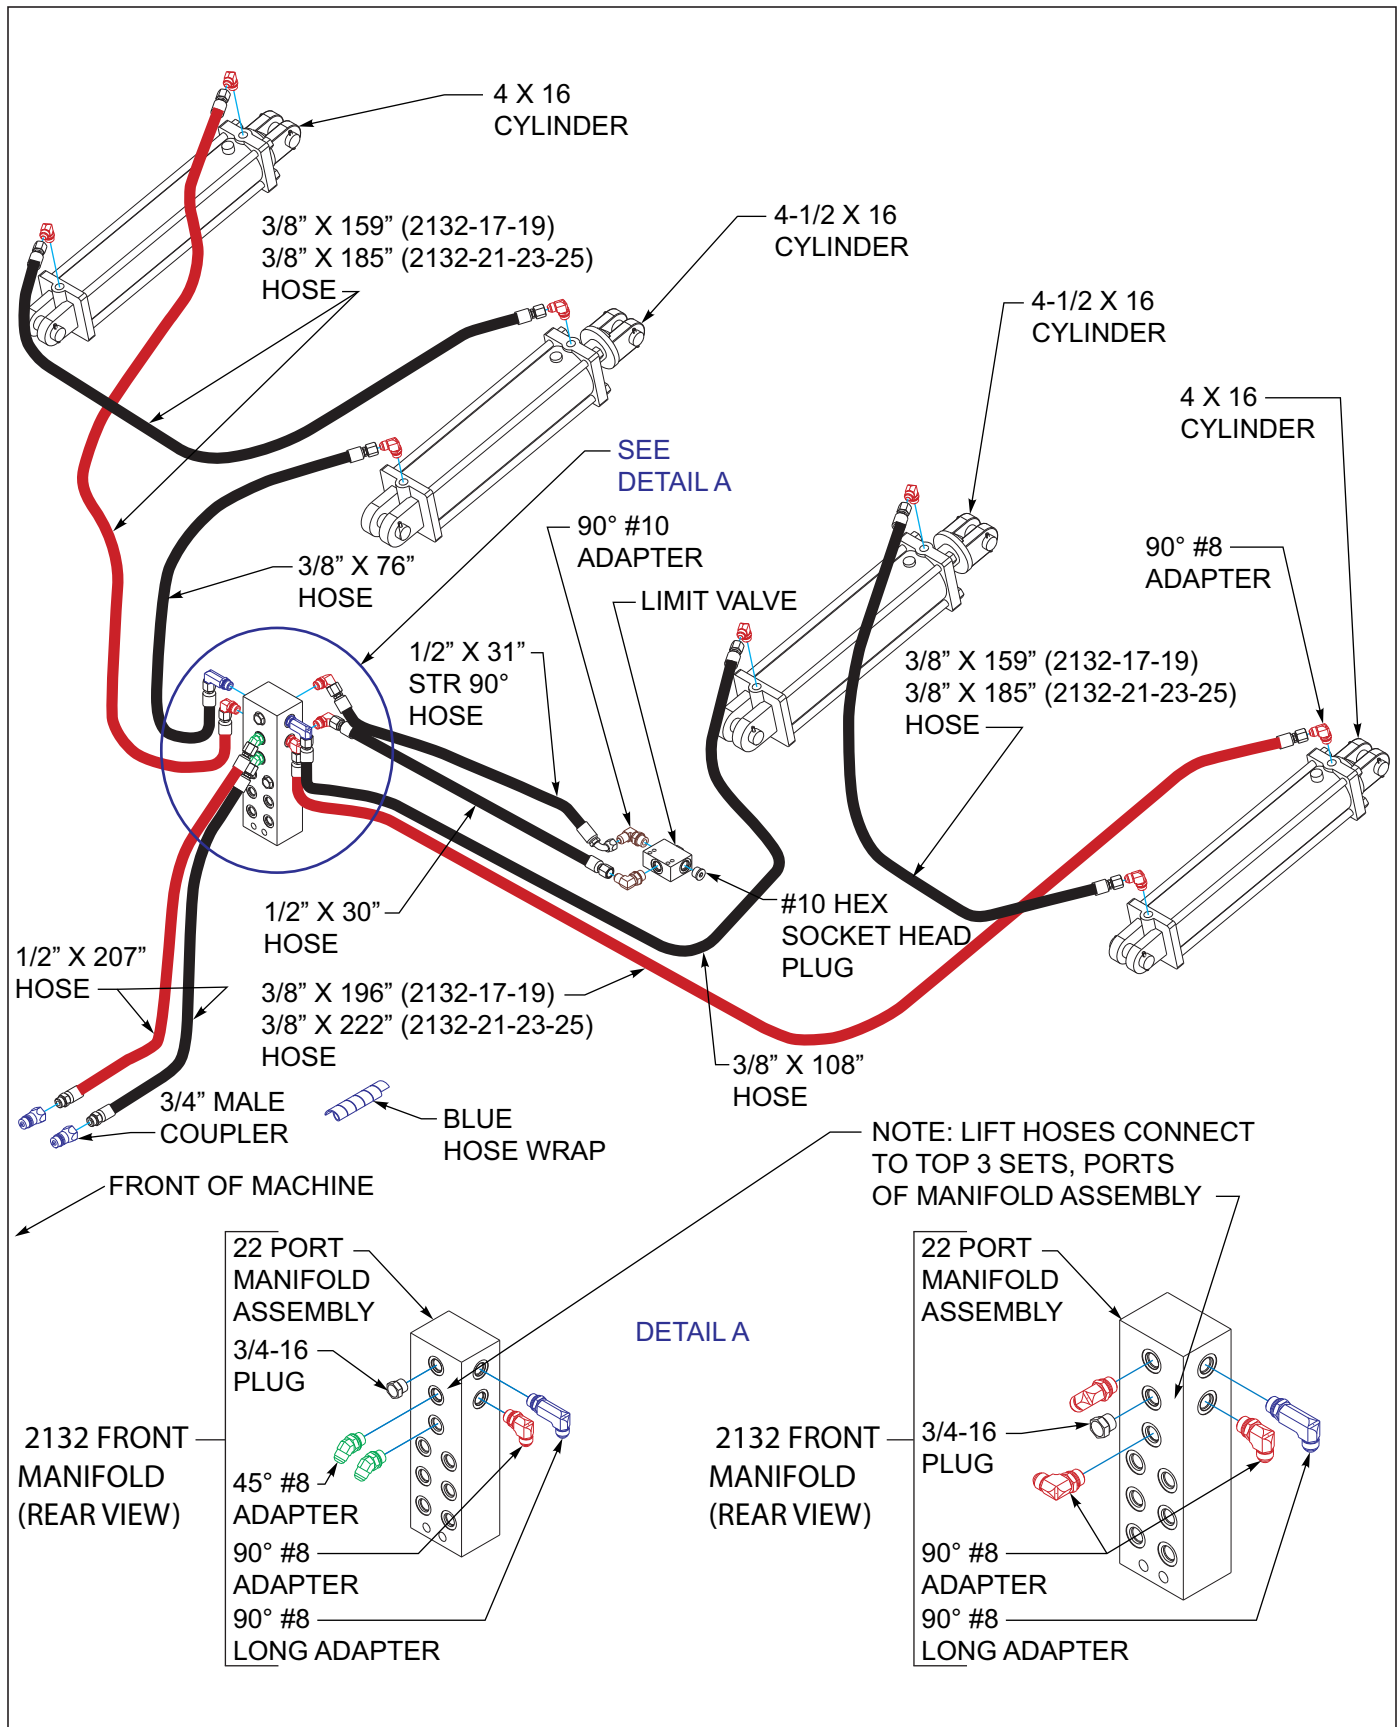
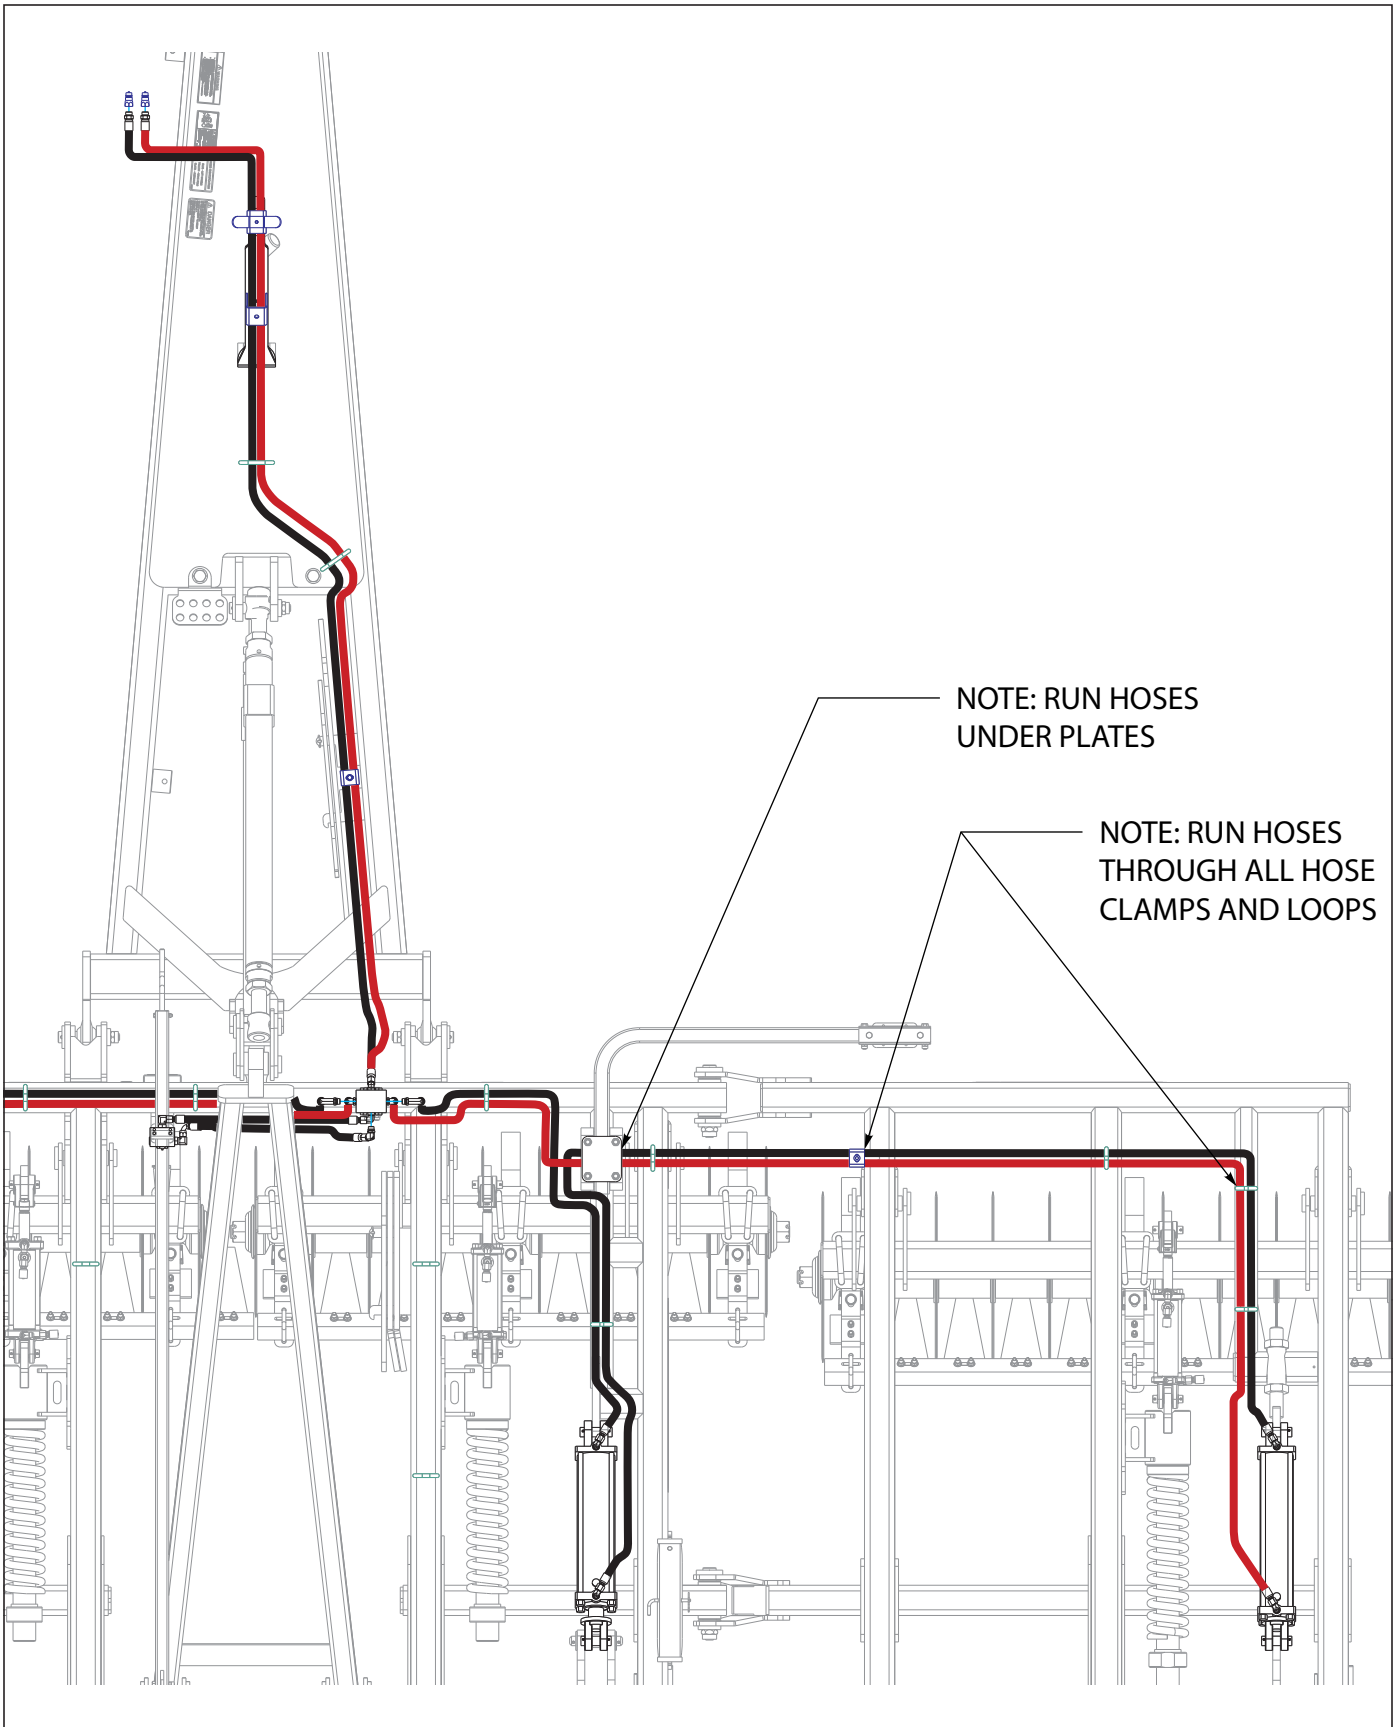

Figure 3-10: Lift Hydraulic Installation 2132-17-19 Before 01-01-2024 & 2132-21-23-25 Before 10-01-2023
Figure 3-13: Lift Hydraulic Layout RH
1. See Figures 3-10 through See Figures 3-13 for lift hydraulic installation.